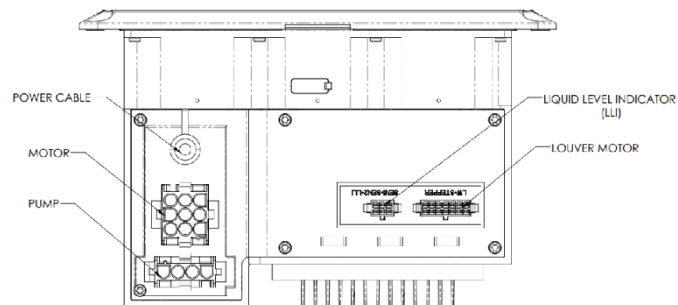

Figure 2: Portacool Control Unit Connectors (Bottom View).
2. From the bottom of the control, unplug the Power cable, Motor, Pump, LLI and Louver motor connectors (Figure 2).
3. Attach all the connectors securely to the new Portacool replacement Control unit (Figure 2).